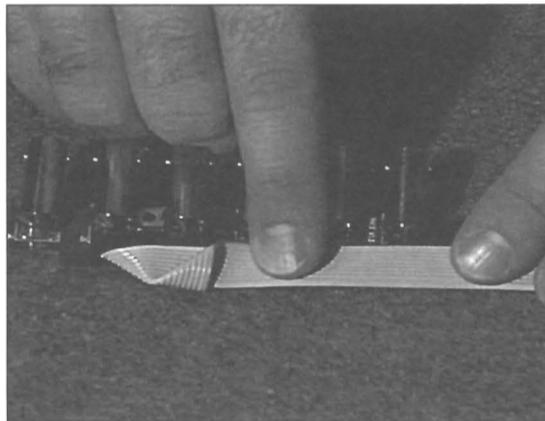

Figure 3
- 3 Fold the ribbon cable in half lengthwise so that it folds on top of itself for a distance of about 6 inches. Press it flat along the fold. See Figure 3.